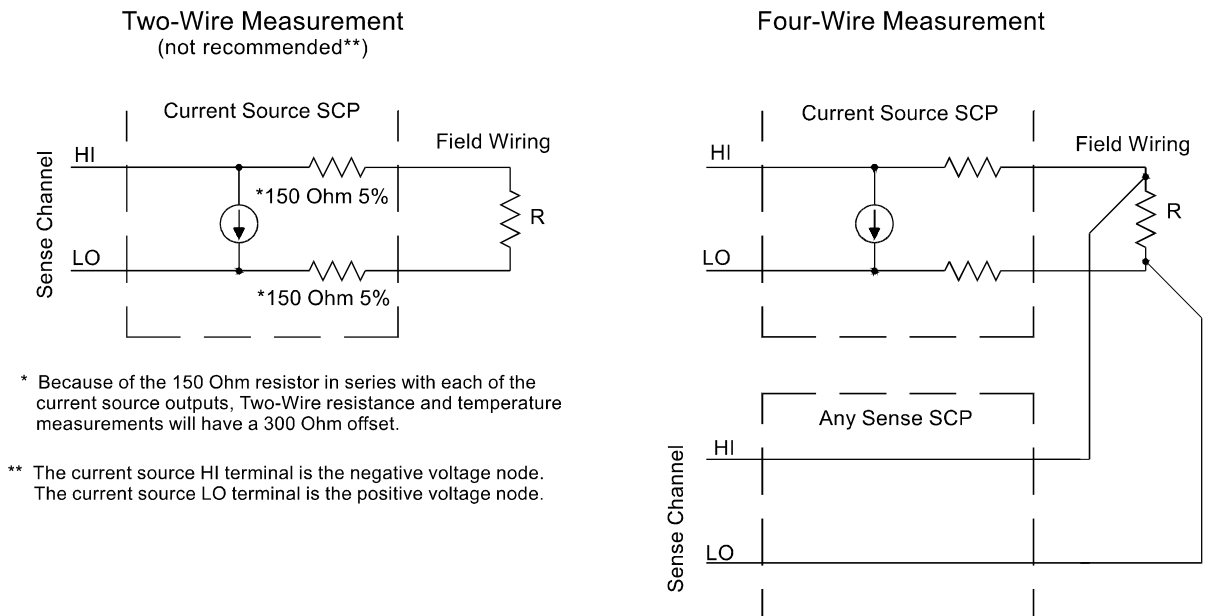

Figure 4-5. Resistance Measurement Sensing
Resistance measurements assume that there is at least one Current Source SCP installed (eight current sources per SCP). See Figure 4-5
- The *ch_list* parameter specifies which channel(s) to link to the resistance EU conversion. These channels will sense the voltage across the unknown resistance. Each can be a Current Source SCP channel (a two-wire resistance measurement) or a sense channel separate from the Current Source SCP channel (a four-wire resistance measurement). See Figure 4-5 for diagrams of these measurement connections.
Temperature measurements using resistance type sensors involve all the same considerations as resistance measurements discussed in the previous section. See the discussion of Figure 4-5 in "Linking Resistance Measurements".